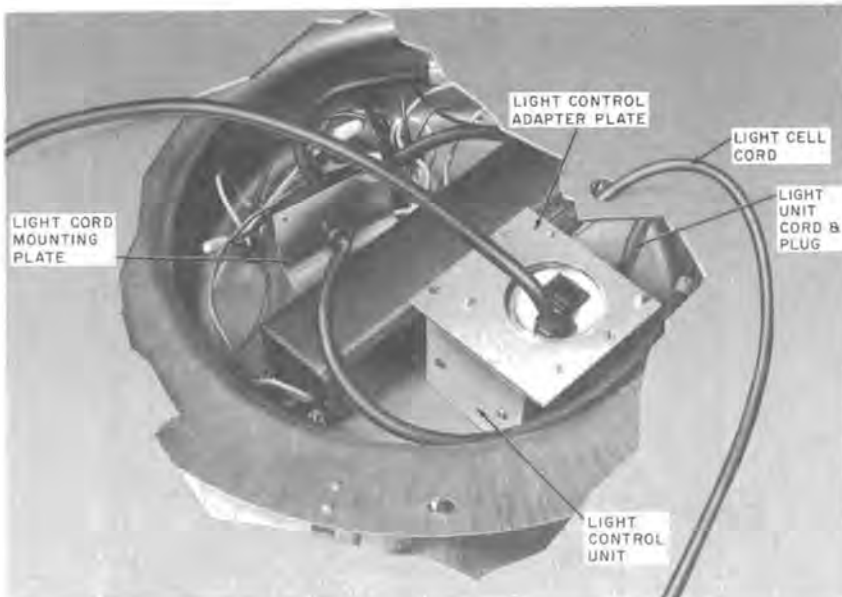

Fig. 12—Position of Light Control in Light Fixture
- (l) Bend light unit cord plate and wedge under ballast (Fig. 12).
- (n) Bend light cord mounting plate and wedge it under ballast (Fig. 12).